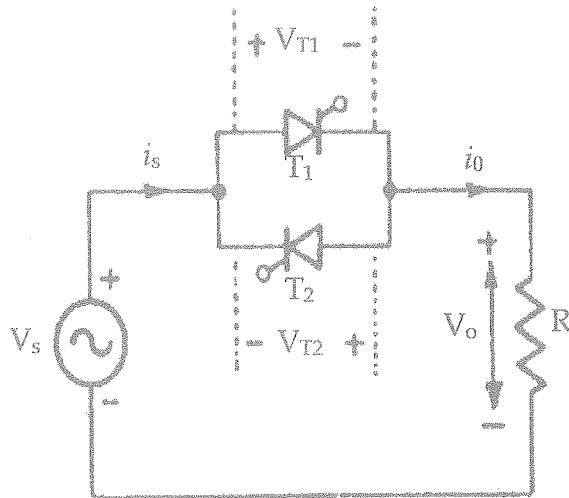

Figure Q4b: AC voltage controller
- b) An AC voltage controller is shown in Figure Q4b. It is connected to a resistive load R of 10Ω . Input voltage V_s is $120 \text{ V}, 60 \text{ Hz}$. The thyristors are switched ON for 25 cycles and switched OFF for 75 cycles.